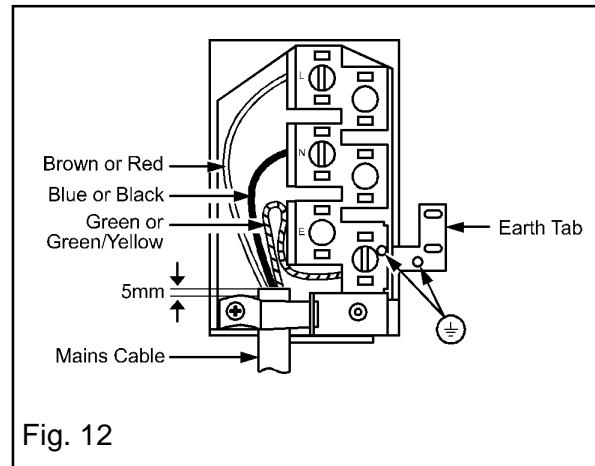

Fig. 12
- Make connection as shown in Fig. 12 by proceeding as follows:-
- Clamp the mains cable securely ensuring 5mm of the outer insulation is inside the terminal block and that the wires are not taught but not so slack as to cause any fouling. See Fig. 12.